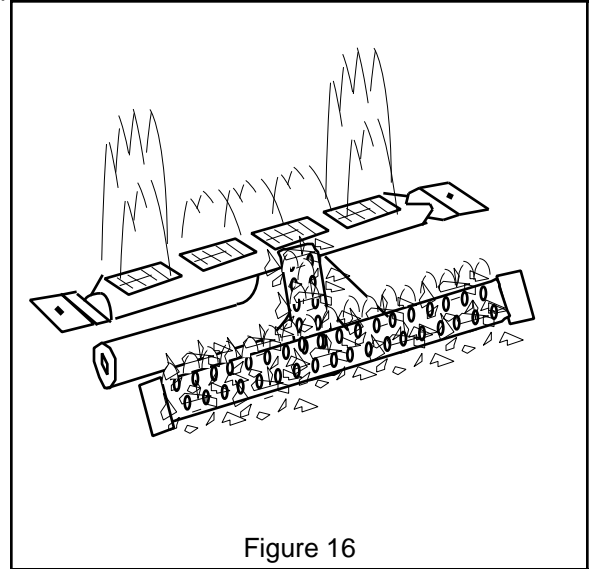

Figure 16
1. **PILOT FLAME:** Pilot flame should be steady and soft blue extending approx. 1 inch beyond the pilot tube as shown in Figure 16.
- A full bodied, lively flame. The flame will be blue at the base and a combination of blue and yellow at the body and tips. Figure 16.